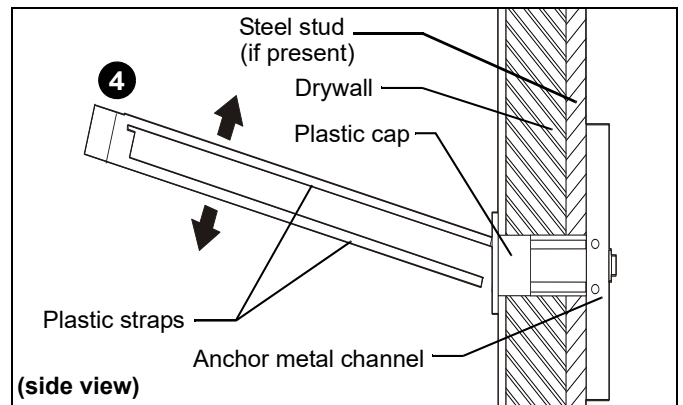

Figure 21
4. Snap off plastic straps on anchor at wall by pushing side to side, snapping off straps level with flange of plastic cap. (See Figure 21)